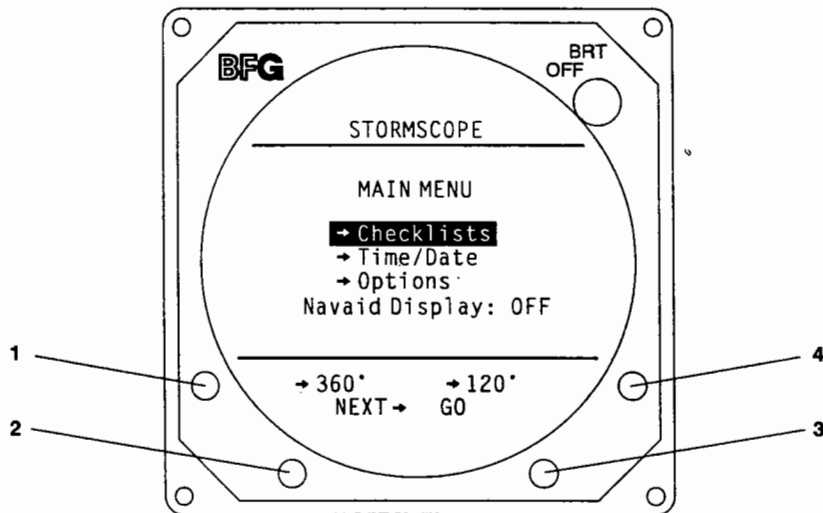
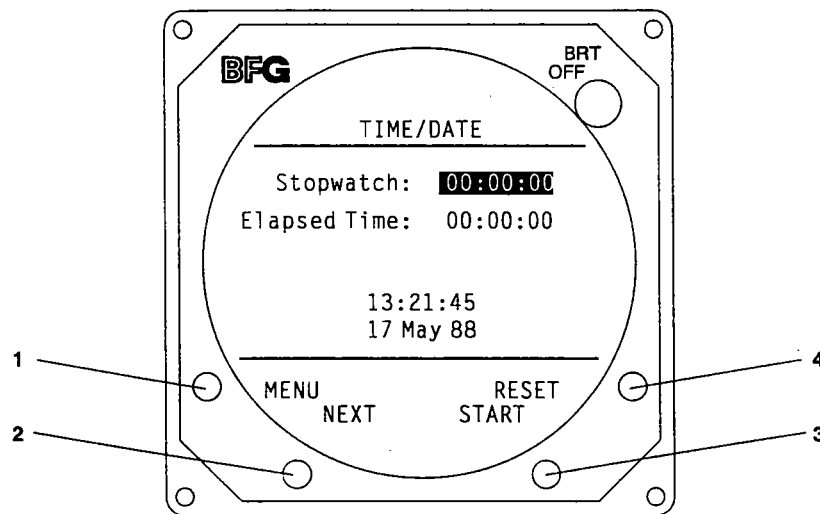

Figure 3-5. Main Menu Presentation
Figure 3-10. Time/Date Presentation
Figure 3-5 shows the Main Menu. This display presents the operator with a menu of system operating modes.
1. **360°** selects the 360 Degree Weather Mapping Mode (figure 3-5).
1. **MENU** switches the system back to the Main Menu (figure 3-5).
Pressing the **GO** button with the checklist mode high-lighted on the Main Menu (figure 3-5) will cause the Checklist Menu to be displayed.
1. **MENU** switches back to the Main Menu (figure 3-5).
Figure 3-10 shows the Time/Date Mode.
Pressing **GO** with the Time/Date mode high-lighted on the Main Menu (figure 3-5) will cause the **TIME/DATE** mode to be displayed. The **TIME/DATE** mode displays the stopwatch, elapsed time counter, and current time and date. The buttons perform the following functions in this mode (figure 3-10):
The stopwatch is a zero-based, upcounting timer which counts hours, minutes and seconds up to 99:59:59. The stopwatch is selected by placing the highlight bar over the stopwatch time using the **NEXT** button. Display buttons 3 and 4 have the following functions (figure 3-10):
The elapsed timer is a zero-based, upcounting timer which counts hours, minutes and seconds up to 99:59:59. The elapsed time is selected by placing the highlight bar over the elapsed time, using the **NEXT** button. Display Buttons 3 and 4 have the following functions (figure 3-10):
The TIME/DATE display is an automatically incrementing clock. The TIME/DATE is set by stepping the highlight through the hours, minutes, seconds, date, month and year using the **NEXT** button. Display Buttons 3 and 4 have the following functions (figure 3-10):